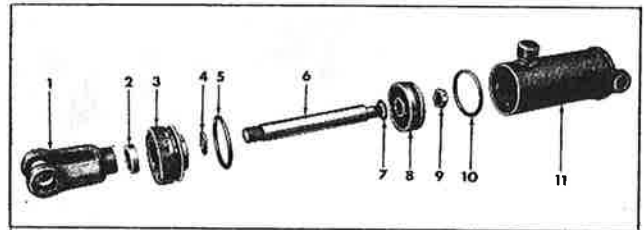

FIG. 337—PISTON AND "O" TYPE SEAL
l. Install new rubber seals in piston guide and piston. Two types of seals can be used on the piston. To install the round "O" ring type seal, place it in the groove on the piston head and oil the seal and groove thoroughly with clean oil. Fig. 337.
Replace the large and small round "O" ring seals as well as the wiper seal in the cylinder guide if any of them show signs of wear or leakage. Fig. 337. Before installing the piston in the cylinder, coat the cylinder walls thoroughly with clean oil.